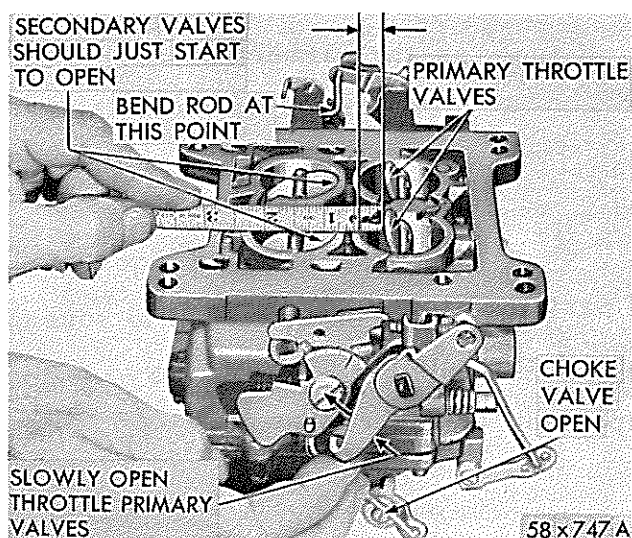

Fig. 5-Testing Secondary Throttle Opening
(1) To check the secondary throttle lever adjustment, block the choke valve in the wide open position and invert the carburetor.
(2) Slowly open the primary throttle valves until it is possible to measure  $29/64$ " between the lower edge of the primary valve and the bore (opposite idle port), as shown in Figure 5. At this point, the secondary valves should just start to open.
(3) The wide open throttle stop lugs on both the primary and secondary throttle levers should contact the bosses on the flange at the same time.
(4) If an adjustment is necessary, bend the secondary throttle operating rod at the angle, using Tool T-109-213, until correct adjustment has been obtained.
(5) At original assembly, the wide open throttle stops are adjusted so that the primary throttle valves go 6 to 8 degrees past the vertical position while the secondary throttle valves stop 6 to 8 degrees before the vertical position. Do not attempt to make further adjustments other than the one in paragraph (4) above.